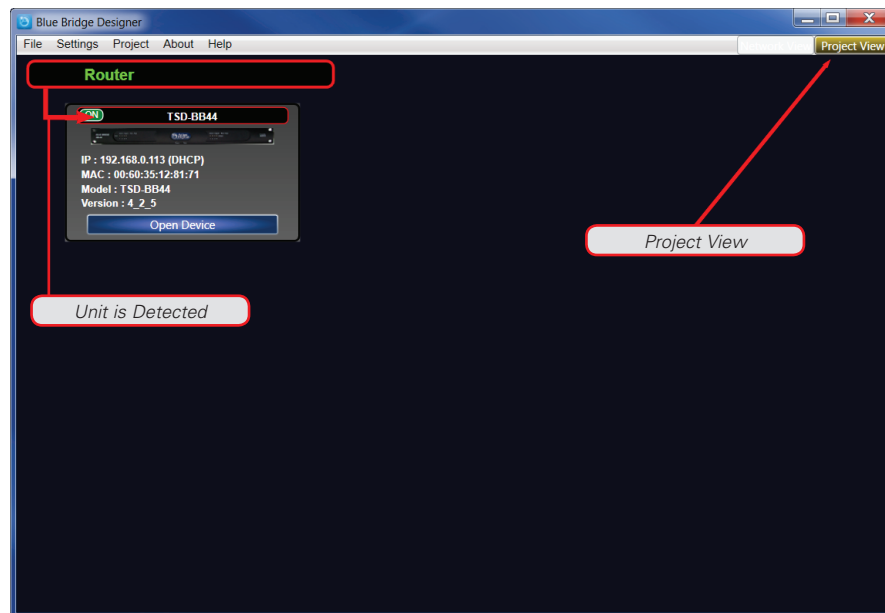
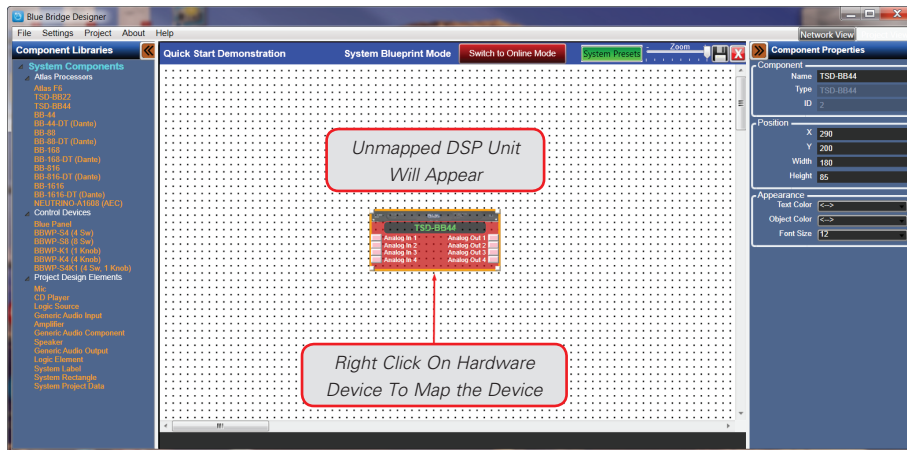

Figure 10
Figure 11
- Once the Atlas BlueBridge hardware device is detected on the network and the status indicator is Green, return to the Project View so the device can be "Mapped" to the design file as shown in Figure 10.
- Click on the “Project View” button as shown in Figure 10. This will take you back to the Blue Print Mode window view. The detected unit will now appear in the main window as shown in Figure 11.